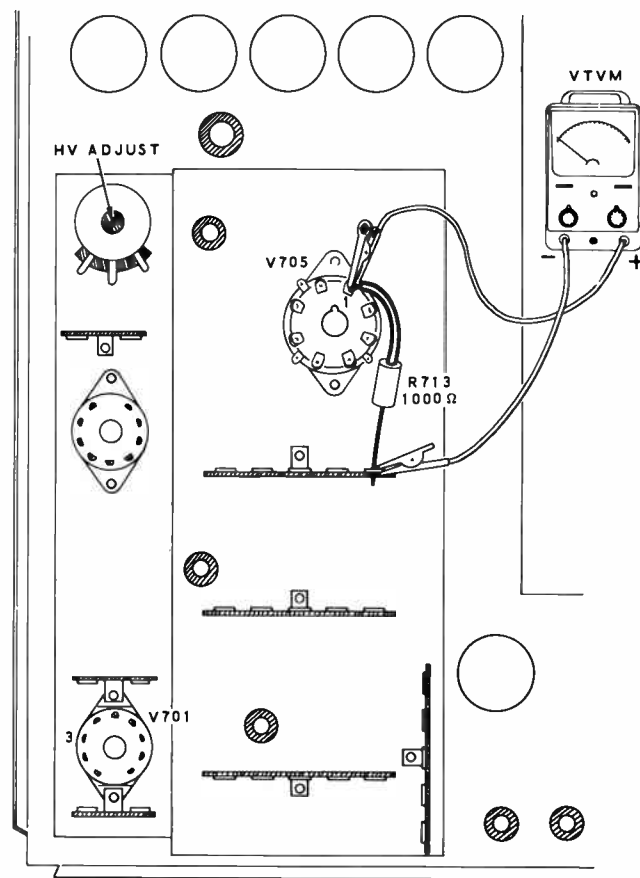

Figure 4-9
- ( ) Remove the ground connection from pin 3 (cathode) of horizontal output tube V701. See Figure 4-9.
Refer to Figure 4-9 for the following steps.